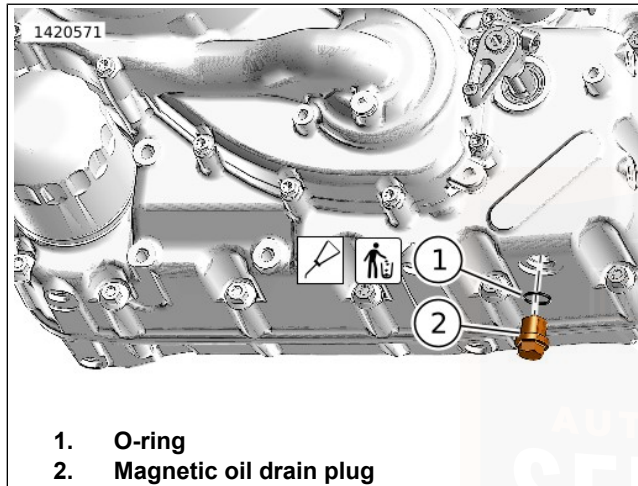

Figure 54. Oil Drain Plug
5. Figure 54 Remove magnetic oil drain plug (2). Allow oil to drain completely.
- a. Remove and discard O-ring (1).
10. Figure 54 Install **new** O-ring (1).
11. Install magnetic oil drain plug (2). Tighten.